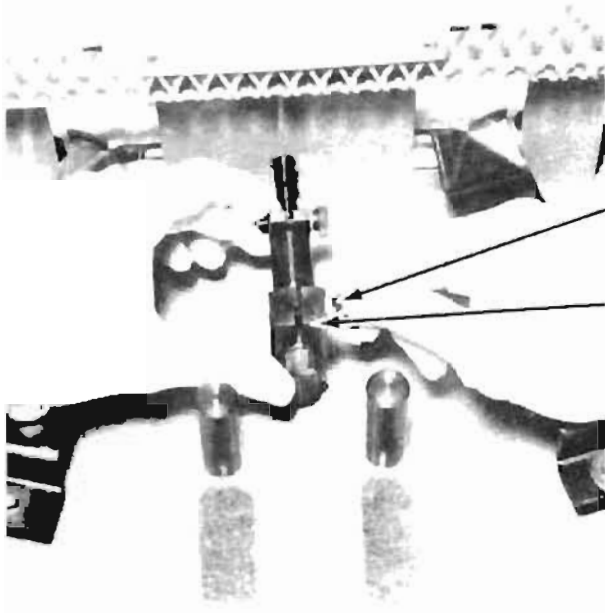

FIGURE 4
2. Loosen the Pin Stop Clamp and slide the Pin Stop to the rearmost position (toward the Heating Units). See Figure 4.